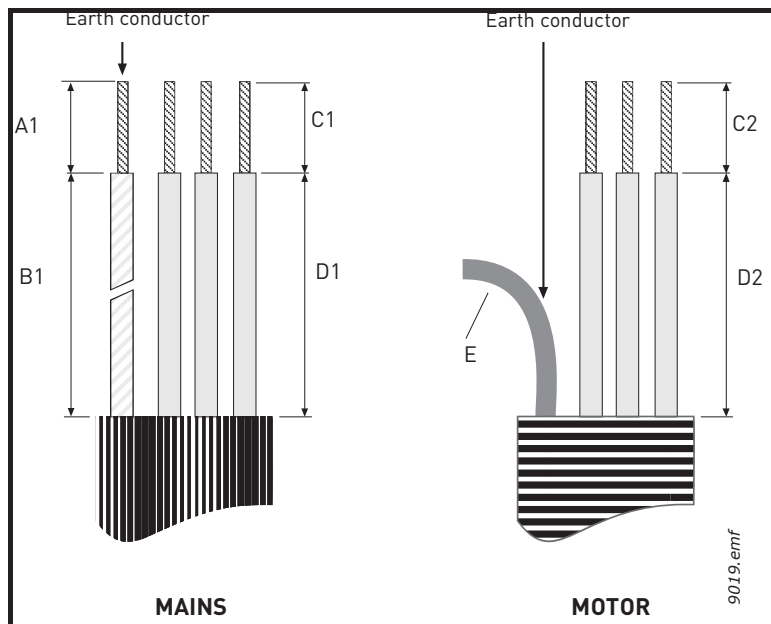
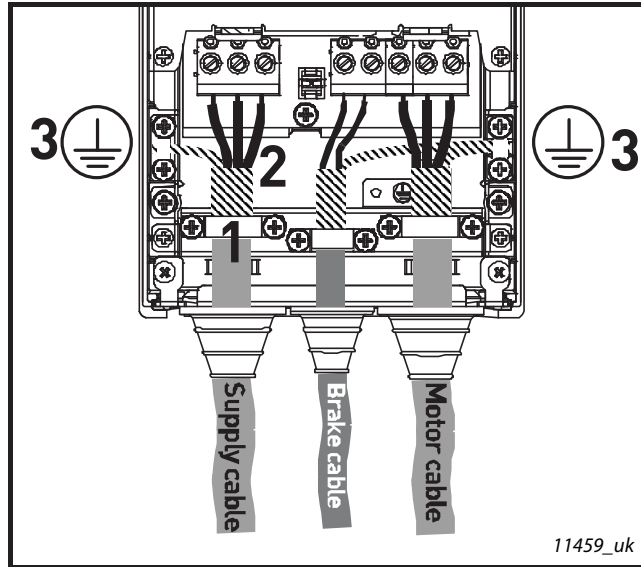

Figure 17. Stripping of cables
Figure 24.
7	<p>Connect the stripped cables (see Figure 17 and Table 10) as shown in Figure 24.</p> <ul style="list-style-type: none"> <li>• Expose the shield of all three cables in order to make a 360-degree connection with the cable clamp (1).</li> <li>• Connect the (phase) conductors of the supply and motor cables into their respective terminals (2).</li> <li>• Form the rest of the cable shield of all three cables into “pigtails” and make a grounding connection with a clamp as shown in Figure 24 (3). Make the pigtails just long enough to reach and be fixed to the terminal - not longer.</li> </ul>